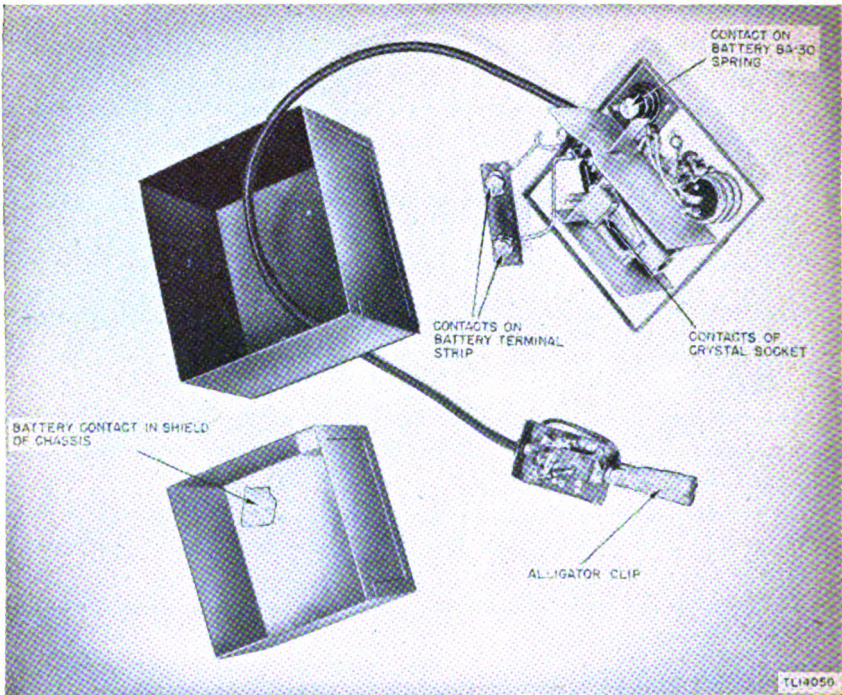

Figure 14.—Maintenance Equipment ME-40-(*), Oscillator VO-6-(*), Interior View of Components to be Covered with Masking Tape
(1) Mask that portion of the contact posts in the transmitter and receiver unit housings of the handset handle which makes electrical contact with the transmitter and receiver units. (See Figure 14.)
(2) Mask the threaded portion of the plug shells. This masking may be done in one of two ways: